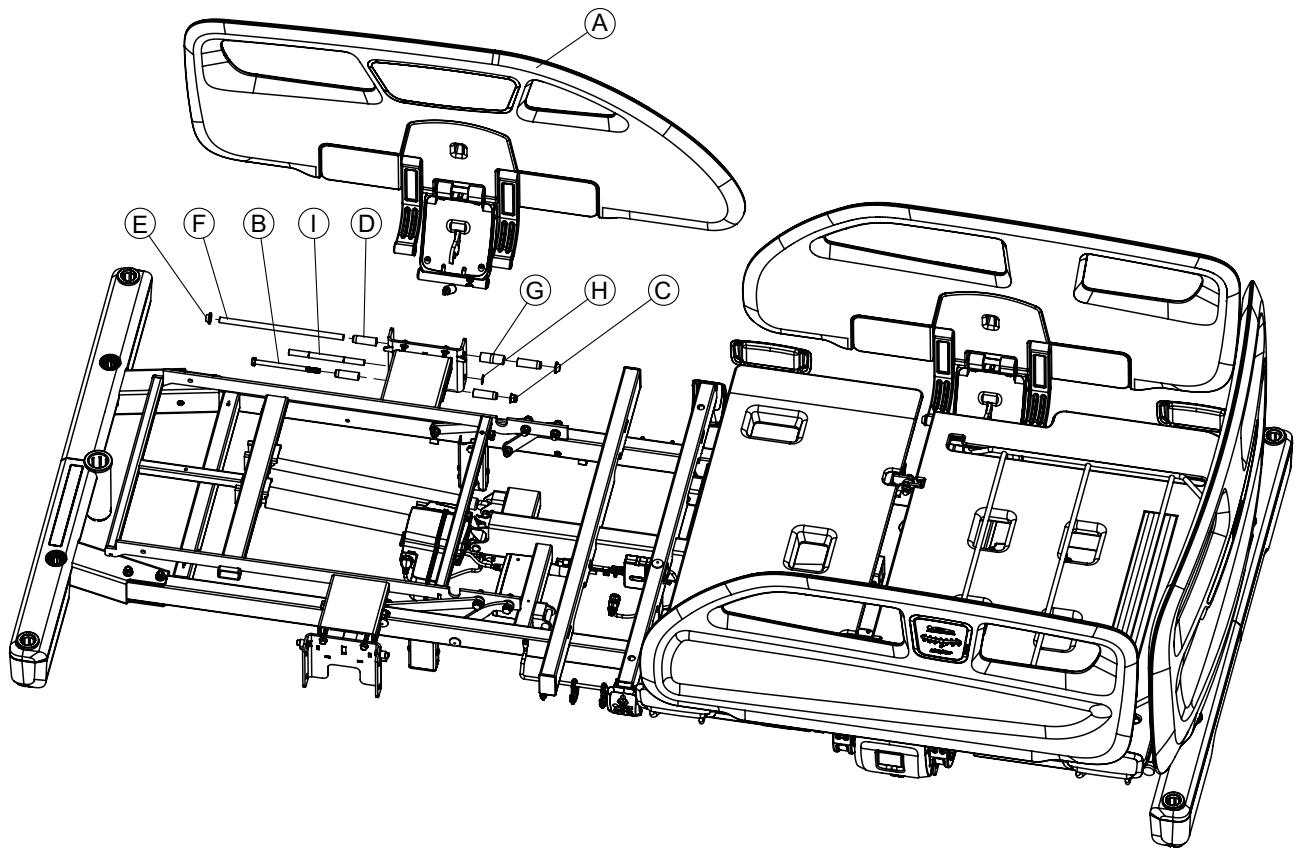

Figure 17 – Siderail head end assembly
8. Using a 3/8" drive ratchet and 13 mm socket with a 13 mm combination wrench, remove the bolt (B), spacers (D), and nut (C) that secure the head end siderail gas cylinder to the Fowler backrest frame (Figure 17). Discard the bolt, spacers, and nut.
9. Using a large slotted screwdriver and a hammer, remove one of the hat-shaped segments (E) that cover the siderail pin.
10. Using one hand to support the siderail, use a large slotted screwdriver and a hammer to remove the siderail pin (F) and spacers (D, G) that secure the siderail assembly with aluminum curved leg (A) to the litter frame.
11. Using a small slotted screwdriver, remove the e-clip (H) that secures the short siderail pin (I) to the siderail main mechanism.
12. Using one hand to support the siderail, use a large slotted screwdriver and a hammer to remove the siderail pin (I) that secures the siderail assembly with siderail main mechanism plastic part (A) to the litter frame.